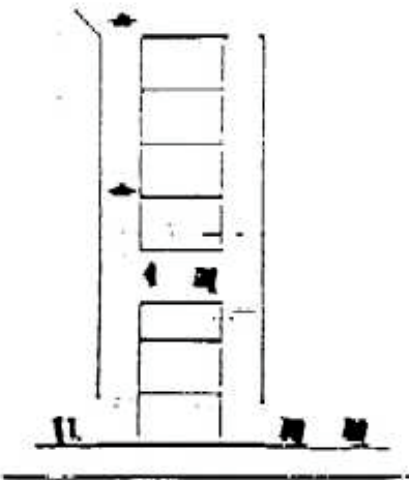

FIGURE 9
9. If the building in question is more than 15 stories, an additional fan placed in the intake stairwell blowing into the floor being cleared may be necessary. (See Figure 9.)